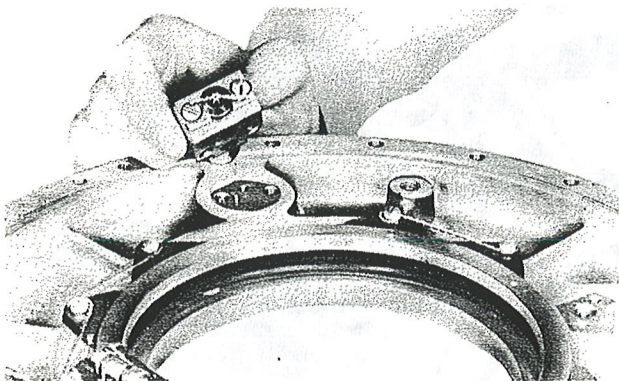

Figure 71—Removing Pressure Control Valve
(19) Remove the pump seal from the recess in the regulator housing.
(20) Remove the pressure control valve as follows: (See figure 71.)